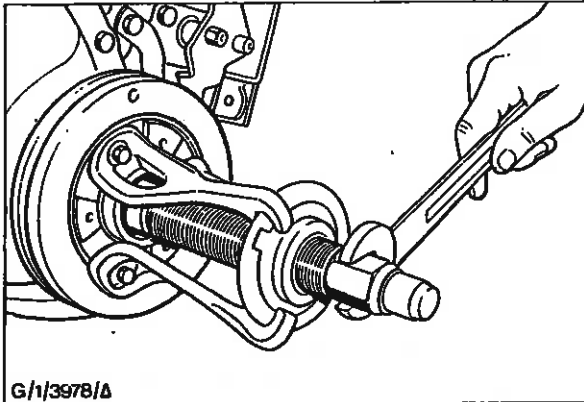

Fig. 20 - Removing Crankshaft Pulley - All Engines Except 2728T
32. On all engines except 2728T, remove the crankshaft pulley retaining bolt, and remove the crankshaft pulley, using a suitable puller if necessary - see Fig. 20.